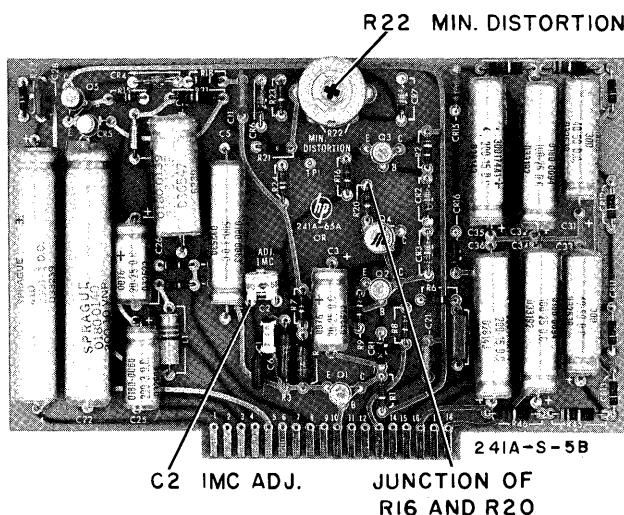

Figure 5-5. Amplifier Board Assembly
- n. Measure DC Voltage between ground and junction of R16 and R20 (see Figure 5-5). Adjust the value of R7 to obtain a reading of -1.0 ±0.5 volts.
- e. Adjust C2 (see Figure 5-5) for an indication of 903 KC.